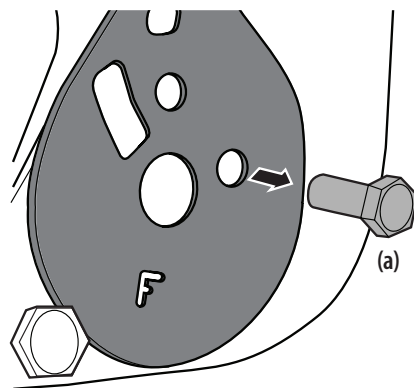

Figure 2-10
5. Remove the screw (a) securing the recliner plate in the seat back position. See Figure 2-10.